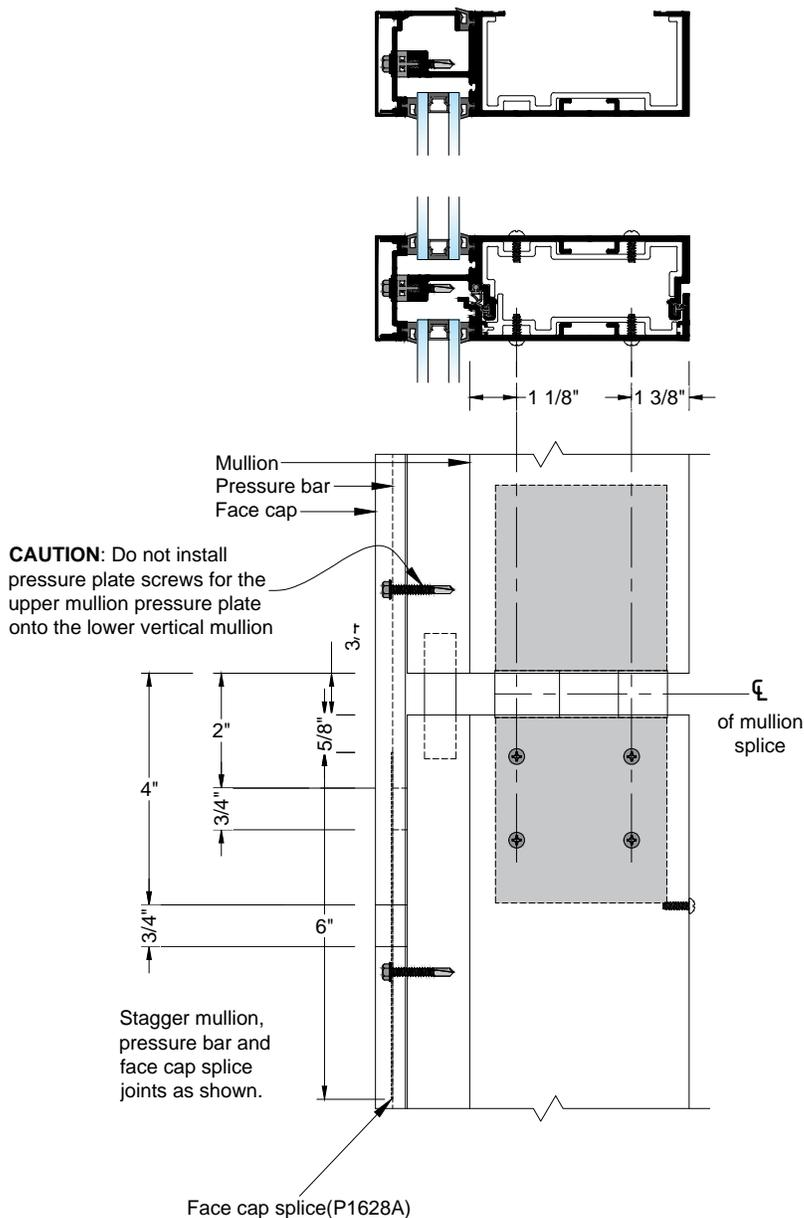
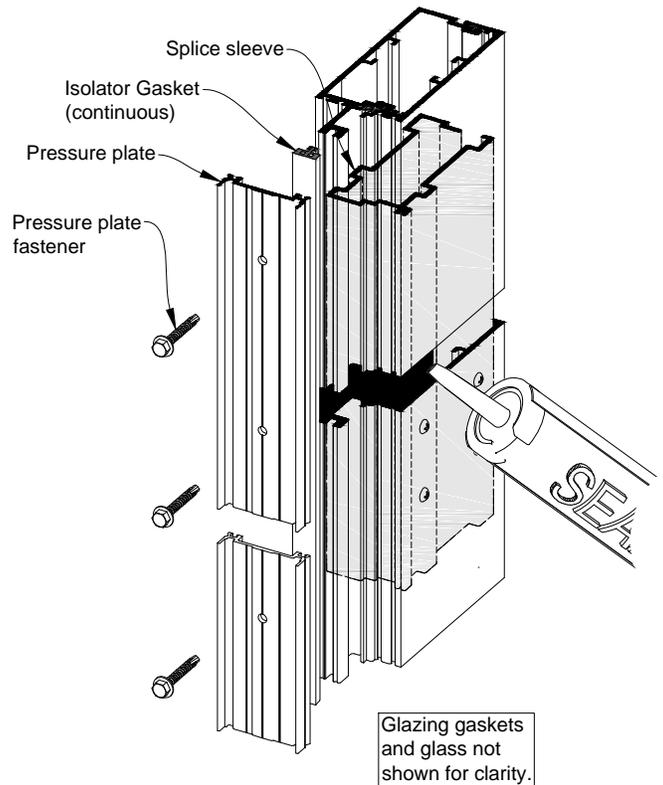

Fig. 68.1
Fig. 68.2
- O. At a traditional in-vertical splice condition, refer to Fig. 68.1 for offsets between the vertical pressure plate and face cover and Fig. 41.1, 41.2 and 68.2 for sealing instructions.
- P. See Fig. 68.1 for offsets at an expansion horizontal and Fig. 68.2 for sealing instructions.
- R. For installations utilizing expansion horizontals, seal the intersections of the lower horizontal and lower vertical as shown in Fig. 68.2